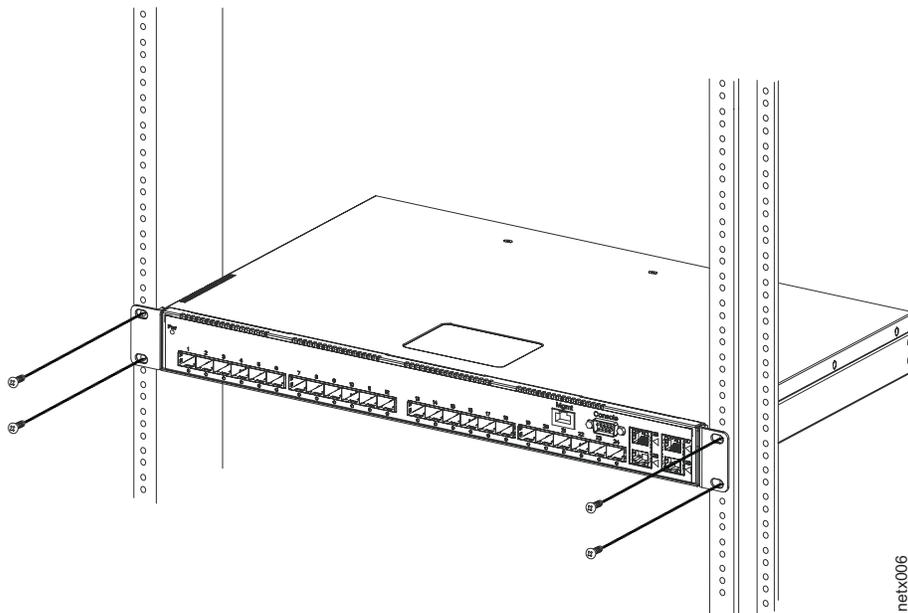

Figure 6. Installing the device in a rack
4. Mount the device in the rack as illustrated in Figure 6.
Note: Although Figure 6 shows a device with short mounting brackets, the procedure for securing a device with long mounting brackets is the same.